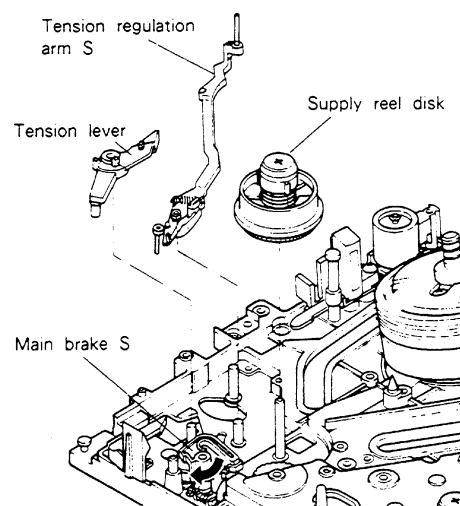

Fig. 2-10-3
- Raise the tension lever avoiding the main brake S and remove the lever from the shaft. (Refer to Fig. 2-10-3.)
- While turning the main brake S slightly clockwise to separate the brake from the supply reel disk, and raise the supply reel disk to remove it from the shaft. (Refer to Fig. 2-10-3.)